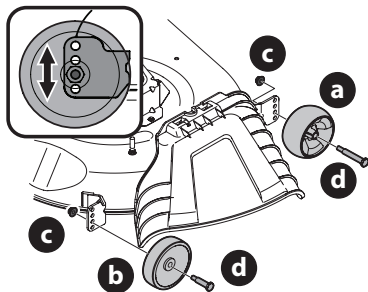

Figure 20
- b. Remove the front (a) and rear (b) deck wheels by removing the flange lock nuts (c) and shoulder bolts (d) that secure them to the deck (Figure 20).